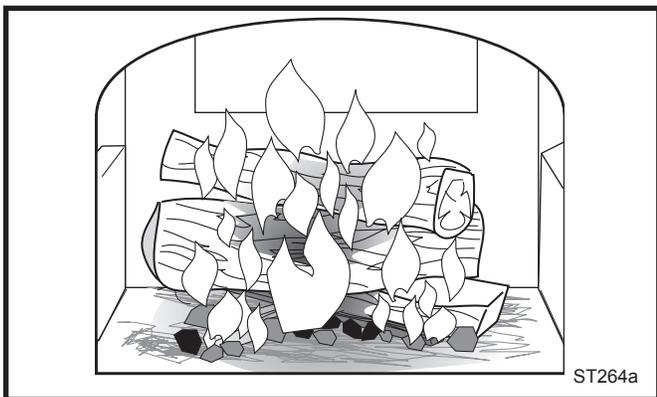

**Fig. 34** Add larger pieces of wood as the fire begins to burn well.
**4. If your Defiant has been broken-in previously** using Steps 1-3, continue to build the fire gradually. Add larger wood with a diameter of 3-4" (75-100 mm). Continue adding split logs of this size to the briskly-burning fire until there is a glowing ember bed at least 3" (75 mm) deep. (Fig. 34) A good ember bed is necessary for proper functioning of the catalytic system and may take an hour or more to establish.